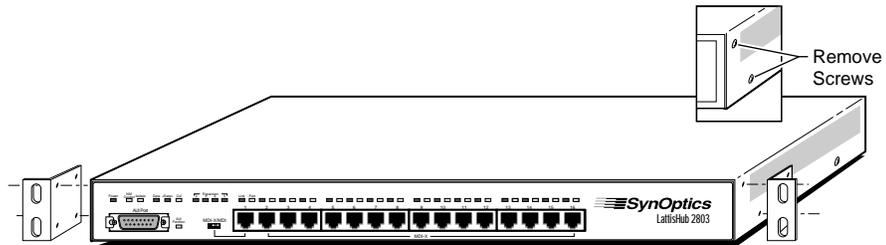
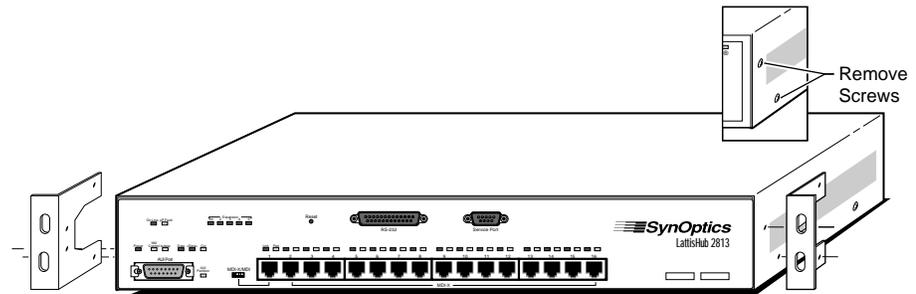

Figure 2-6. Attaching Brackets for Rack Installation—Model 280x
Figure 2-7. Attaching Brackets for Rack Installation—Model 281x
- a. On each side of the concentrator, use a #1 Phillips screwdriver to remove the screws at the front corner (see Figure 2-6 and Figure 2-7).
- b. Hold a mounting bracket against each side of the concentrator, as shown in Figure 2-6 and Figure 2-7, and align the countersunk screw holes in the bracket with the bracket mounting holes in the concentrator. (The bracket on the Model 281x covers a few of the chassis ventilation holes. This does not compromise the cooling of the concentrator.)